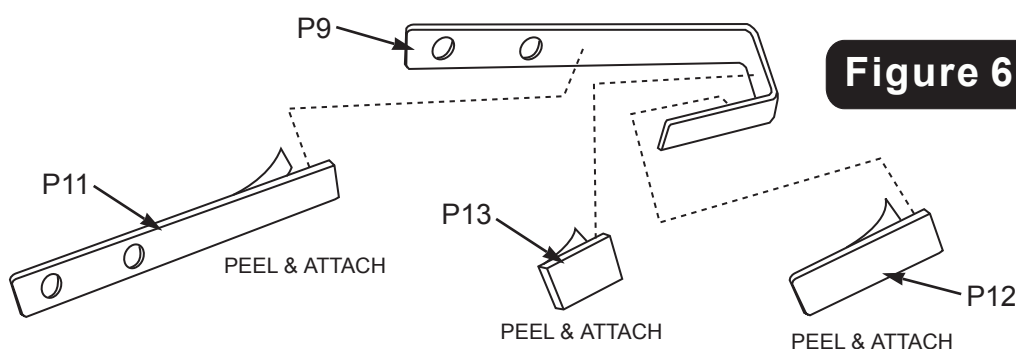

Figure 6
2. Peel the backing of Long EVA Tapes **P11**, Medium EVA Tapes **P12** and Short EVA Tapes **P13** and then attach to Goal & Backboard Mounting Brackets **P9** as shown in **FIGURE 6**.